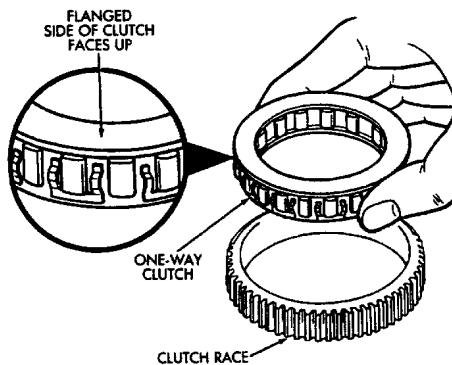
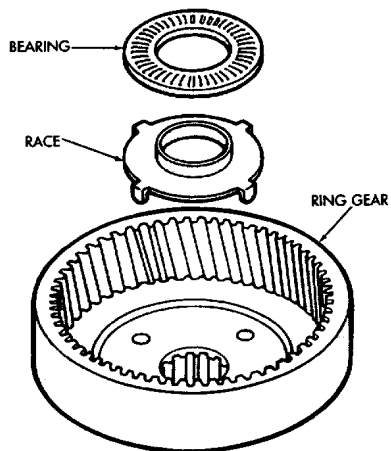

Fig. 21 Assembling One-Way Clutch And Race
Fig. 22 Install Ring Gear Bearing And Race
(2) Install one-way clutch in race (Fig. 21). Flanged side of clutch must face upward as shown.
(3) Install assembled one-way clutch and outer race in planetary gear. Be sure flanged side of clutch is facing upward.
(4) Install clutch pack retaining plate and snap ring in planetary gear.
(5) Coat planetary race with petroleum jelly and install it on planetary gear. Outside diameter of race is 41.8 mm (1.646 in); inside diameter is 27.1 mm (1.067 in).
(6) Install hub in planetary ring gear and install snap ring.
(7) Coat race and bearing with petroleum jelly and install in planetary ring gear (Fig. 22).
(8) Verify bearing/race size. Outside diameter of race is 47.8 mm (1.882 in); inside diameter is 24.2 mm (.953 in). Outside diameter of bearing is 46.8 mm (1.843 in); inside diameter is 26 mm (1.024 in).